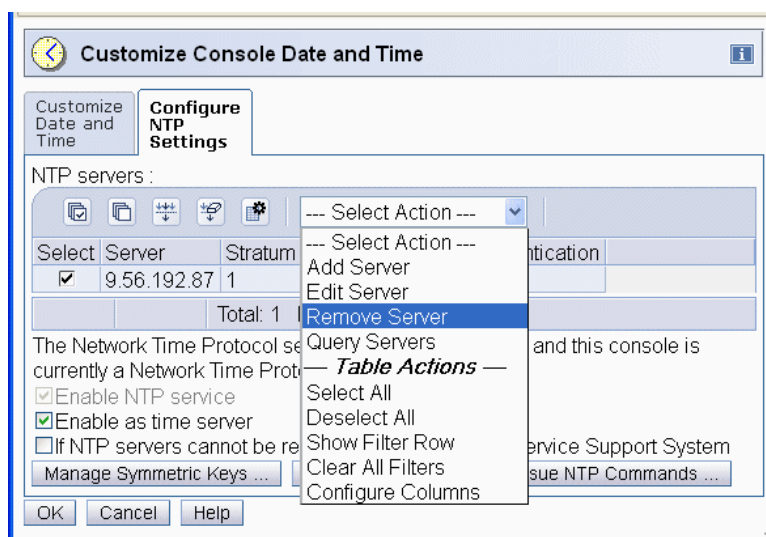

Figure 1-27 Remove last NTP server
4. If there is a need to remove the last NTP server, you can select it and click **Remove Server** in the Select Action pull-down menu (Figure 1-27).